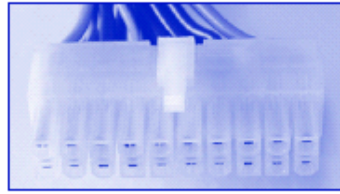

Figure 4
- (12) You can now connect the PSU cables for the motherboard.
- (13) You will require one or more of the following (See Figure 4, 5 & 6).
**Figure 4** shows main power connector, which all boards need.